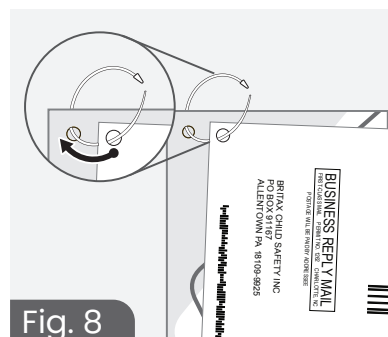

Fig. 8
2. **Thread** the new lanyard through the circular hole in the new user guide and new registration cards (Fig. 8).